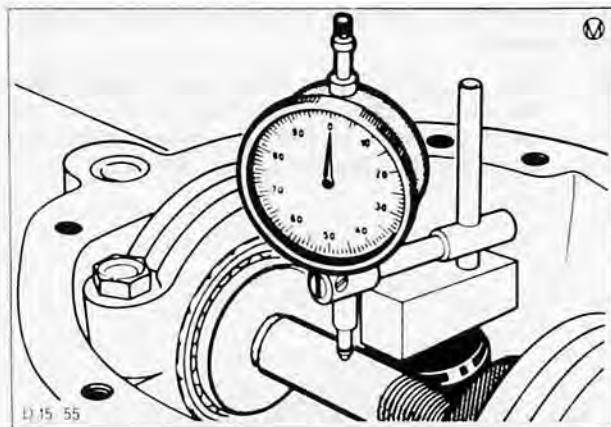

Fig. 42. Dial indicator at '0' (max. discrepancy 0,01 mm)
27. Re-check zero of dial indicator in mounting block with aid of setting gauge and place block on the end of the master pinion. If plunger of dial indicator is moved across the gauge bar as beforehand (in sub-operation 22), indicator must read '0' if the preceding measurements were accurate, Fig. 42. Discrepancies of a maximum of 0,01 mm from '0' are permissible.